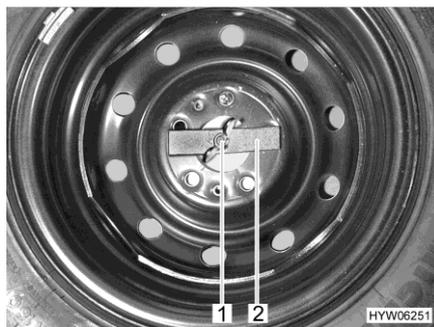

Fig. 170 Spare wheel in the rear storage space
- Loosen the wing nut (Fig. 170,1) by hand and unscrew it.
- Remove the pad (Fig. 170,2).